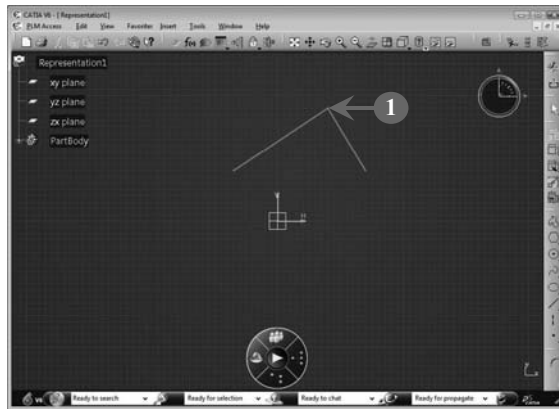

FIGURE 2.54
1. *Select* the sketch that you want to corner. In our case, two intersecting lines have been drawn, as shown in **Figure 2.54**: